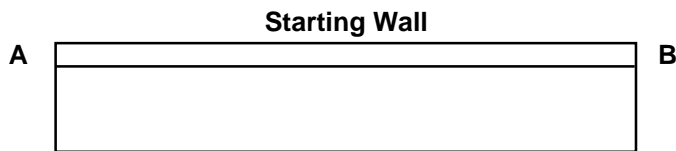

Figure 1
1. When only one working line is needed, establish the line by measuring an equal distance from the starting wall at both ends as in Figure 1. This distance should be multiple of 4 1/2" plus 1/4" for an expansion space.